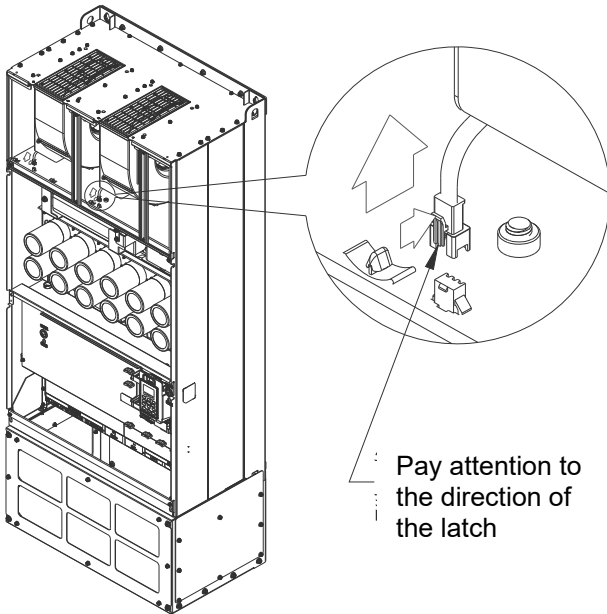

Figure 3
3. Press the latch to disconnect fan power (as shown in the enlarged picture of figure 3).